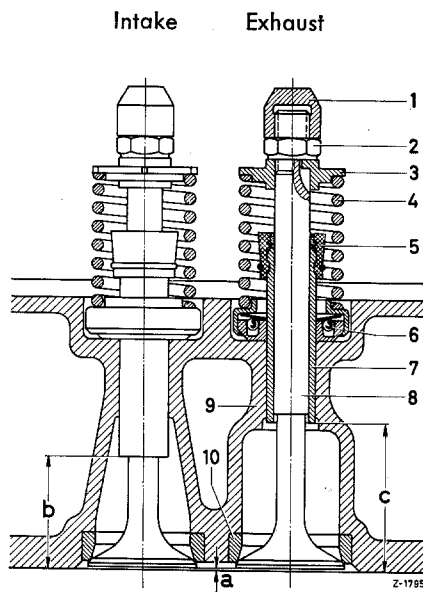

Fig. 05-16/4
For models 190 Dc, 180 Dc, and L and O 319 D, the intake and exhaust valve seals are the same (refer to Fig. 05-16/4).
With the intake valves remove the valve spring retainer (3), the valve springs (4) and (5), the seal ring holder (6) and the Silicon seal ring (7) after loosening the cap nut (1) and the counternut (2). Apply oil to a new seal ring (7) and slide it over the valve stem until it contacts the valve guide. Then mount the seal ring holder, the valve springs, the valve spring retainer and the counternut and cap nut (Figure 05-11/5). When installing valves for **models 190 Dc, 180 Dc, and L and O 319 D**, be sure to replace valve seal (5) (Fig. 05-16/4). Seals for intake and exhaust valves are the same. First insert valve rotating device (6) or, for 180 Dc, filler piece (Fig. 05-16/4). **Place assembly sleeve 000 589 16 61 00 over respective valve** to prevent damaging the Teflon sealing ring in valve seal by threads on valve stem. Slide valve seal over lubricated assembly sleeve until valve seal snaps into valve guide groove, then assemble valve spring (4), valve spring retainer (3), hex. nut (2) and cap nut (1) (refer to Fig. 05-16/4).